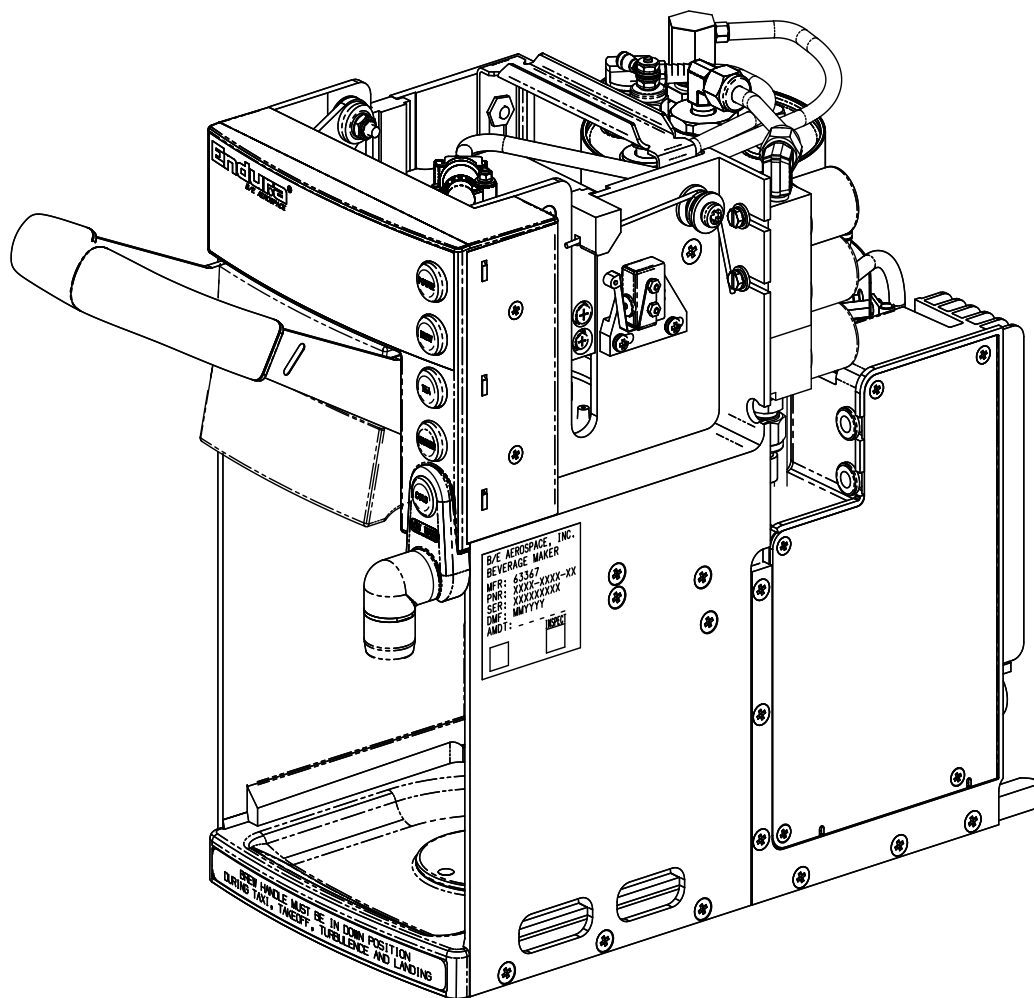

Figure 1
- B. The Beverage Maker (refer to Figure 1) is designed for use in aircraft galleys. The Beverage Maker is easily removed from the permanently installed rail assembly after a locking pin is released.
3. Operation (refer to Figure 1)